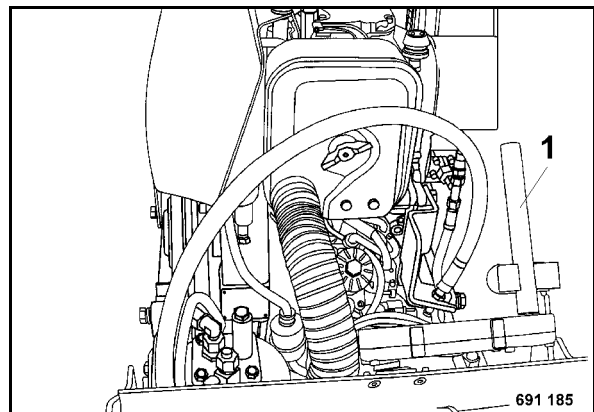

Fig. 27
- Take the safety crank handle 1 (Fig. 27) out of the bracket.